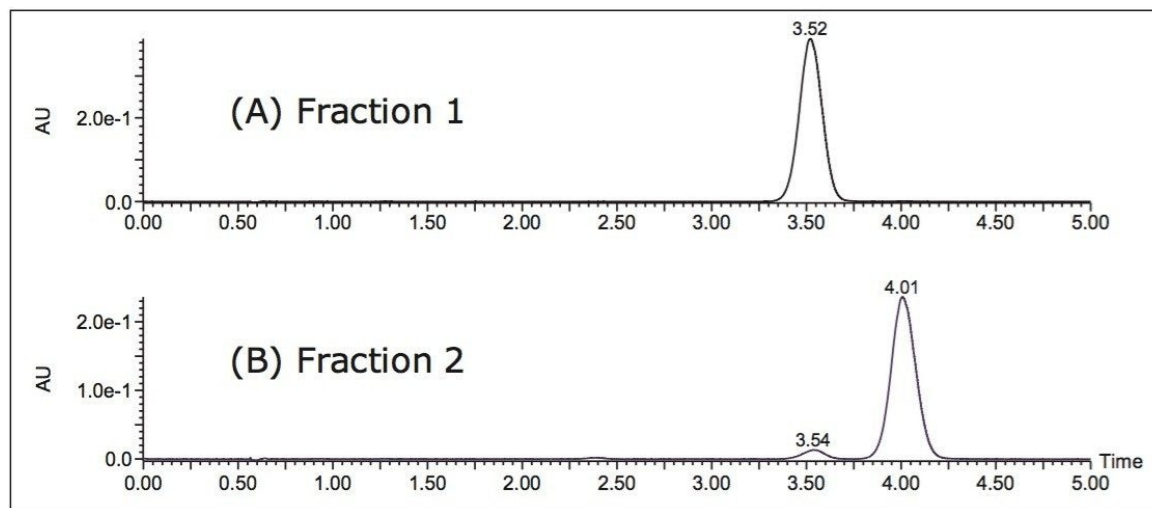

Figure 4. ACQUITY UPC² chromatograms showing analysis of the Prep 80q SFC System fractions.
5) no injection spike is observed. Given that the initial sample was a racemic mixture, each enantiomer started out at a purity of 50%. The fractions obtained on the Prep 80q SFC System, were analyzed on the ACQUITY UPC² System (Figure 4), and the results revealed purities of 100% for peak 1 and 95% for peak 2.